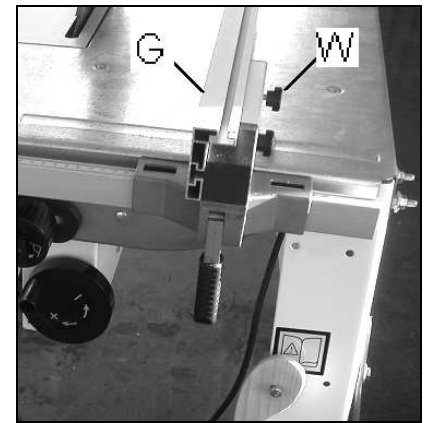

Fig 17
Use 2 bots and wing nuts (W, Fig 17) to attach the aluminium profile (G) to the rip fence body
-Use in upright position (Fig 17) for cutting wide stock: